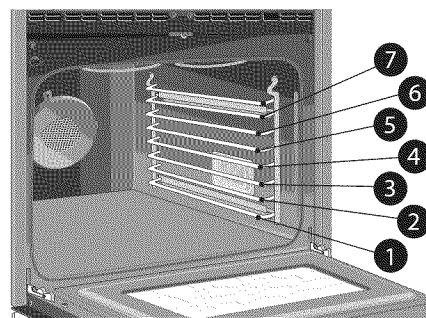
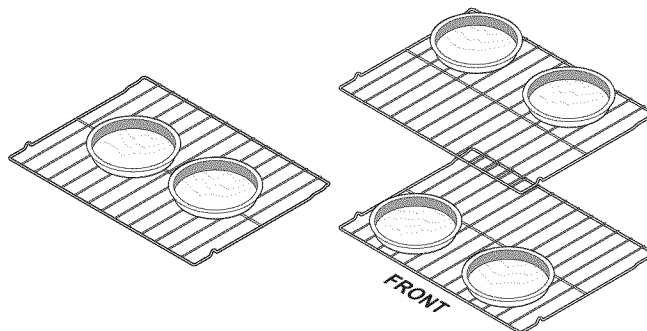

Figure 16: Rack positions
Figure 17: Single rack pan spacing (L), Double spacing (R)
1. For best results, single rack baking is recommended. Fully preheat oven. Place food in rack position 3 or in center of oven (Figure 16) using a glide rack and place pans as shown in Figure 17.
- For best results when baking cakes using two oven racks, place bakeware on oven rack positions 2 and 7 (Figure 16) and place pans as shown in Figure 17. Use glide rack in position 2 and a flat rack in position 7.